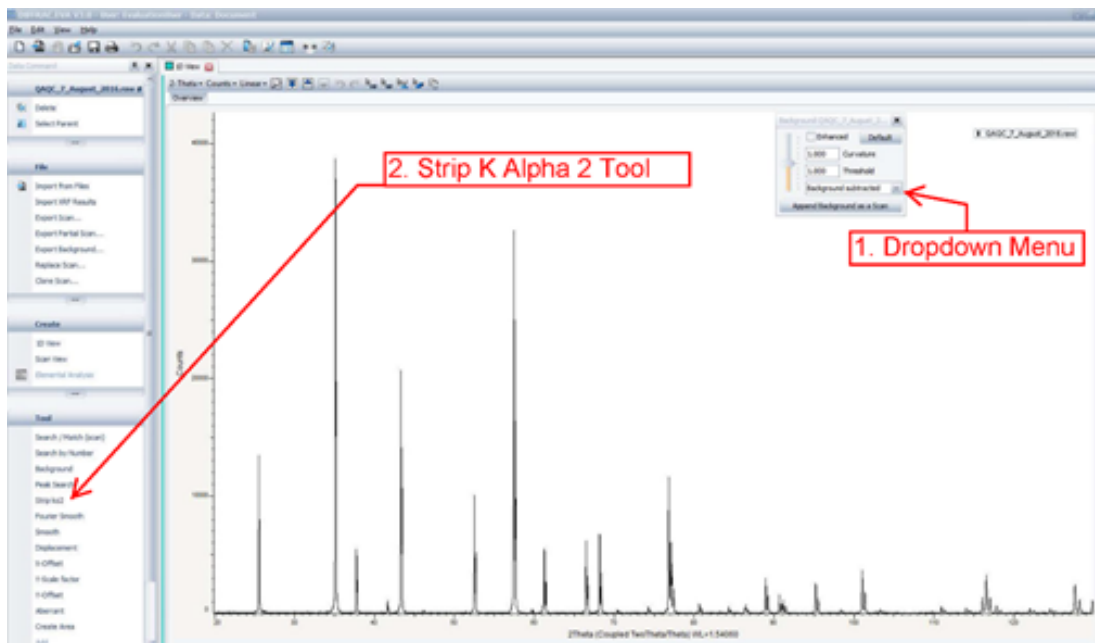

Figure 20. EVA diffractogram with the background subtracted. (1) Dropdown Menu to Append Scan
3. Strip K_2 and Append (*Figure 20*).